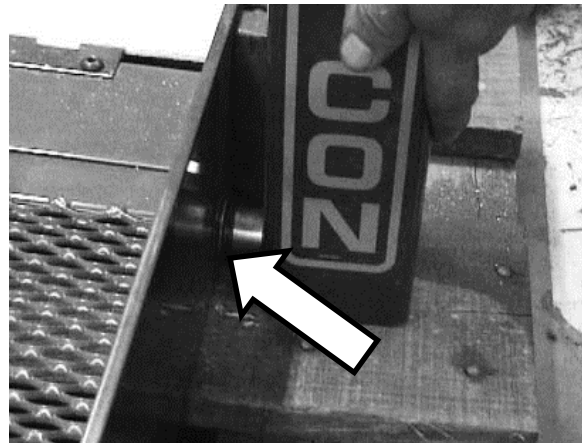

Figure 20. Insert Main Shaft into Vertical Arm
6. Refer to **Figure 20**. Add the spacer onto the main shaft then align and insert the main shaft in the lower vertical arm opening.